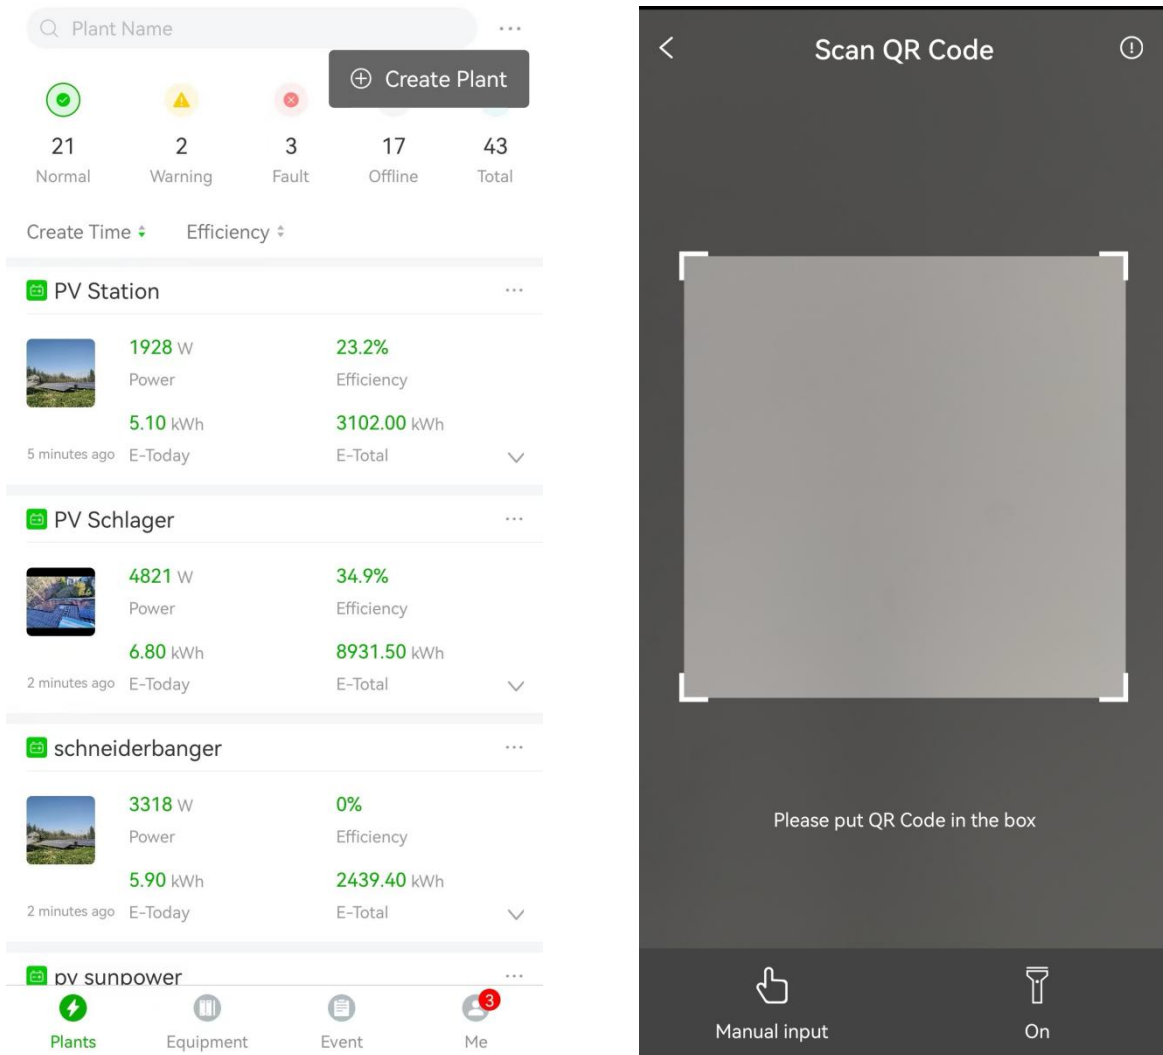

Figure 4-1 Create plant
1. Press the "Plants" button at the bottom, and press the "☰" button in the upper right corner to enter the screen. Scan the QR code of the device, or manually enter the serial number and registration code to add the device, as shown in Figure 4-1.